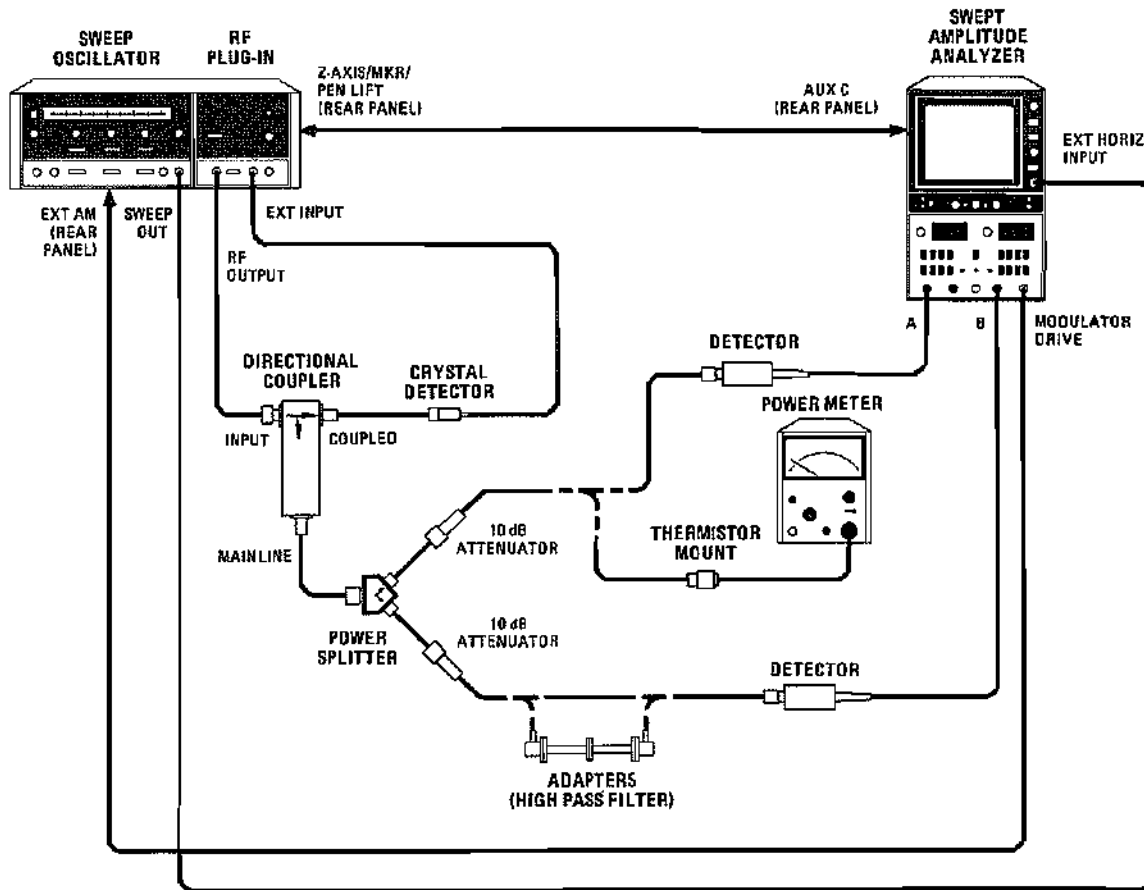

Figure 4-10. Harmonic Spurious Signals Test Setup
- h. Connect adapters (high pass filter) between 10 dB attenuator and detector as shown in Figure 4-10.